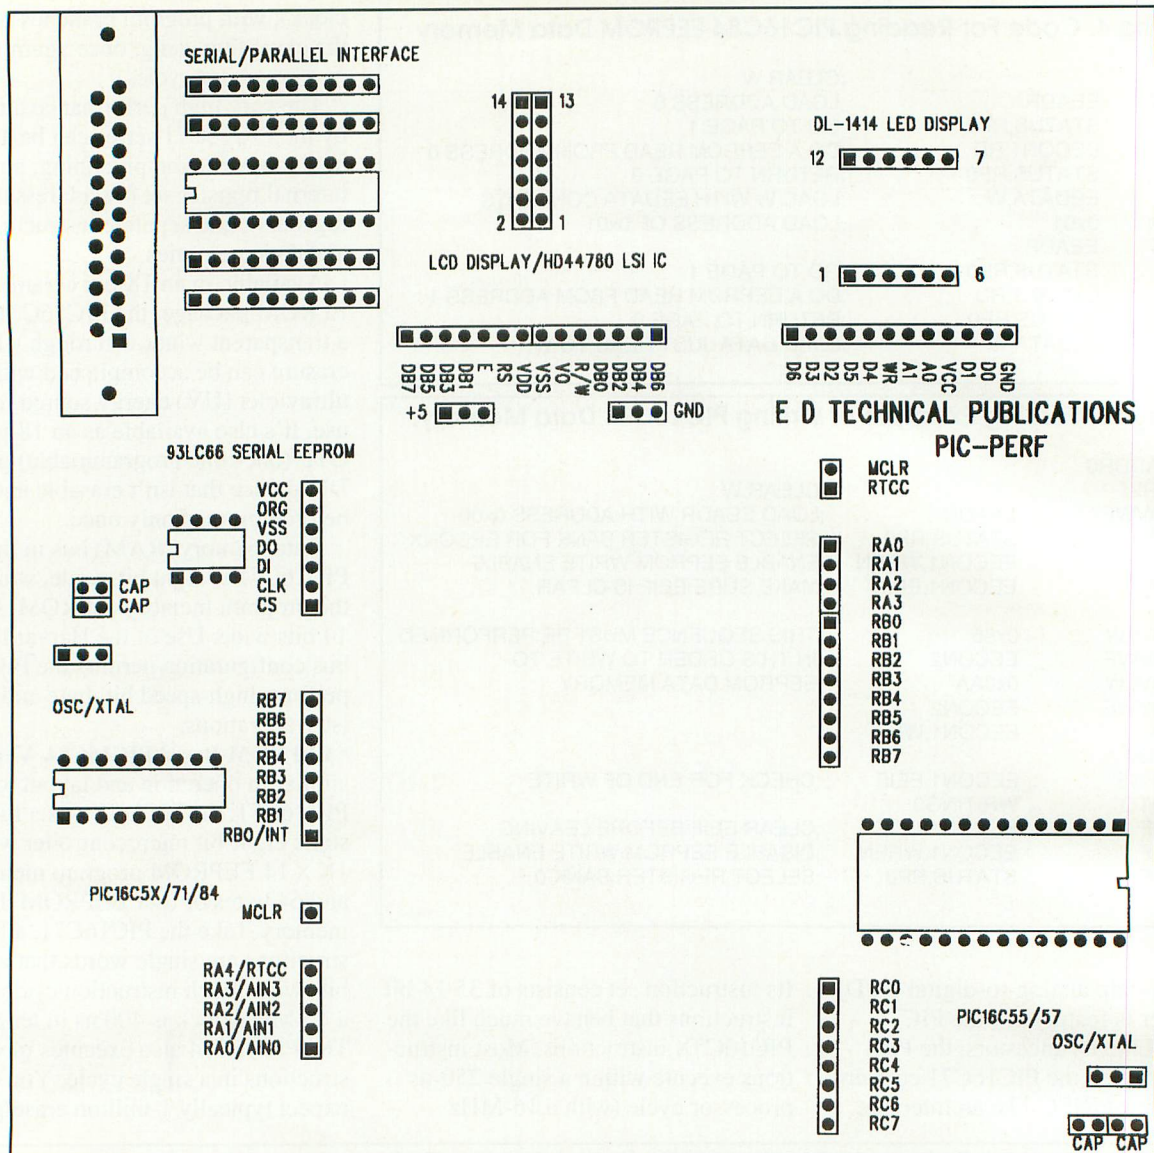

Fig. 8. Silk-screen layout for PIC-PERF breadboarding system described in text.
• **User-Defined Serial/Parallel Interface.** Rather than impose a fixed I/O interface, I thought it would be good to let you implement your own particular serial or parallel I/O interface. Taking a look at the upper-left of Fig. 8, you'll find a 25-pin D-shell connector layout and a 20-pin socket layout surrounded by a total of four 20-pin single-in-line pads. With use of the experimenter's breadboard area and using hard-wired or machined-pin connections, you can fabricate just about any type of interface you desire.